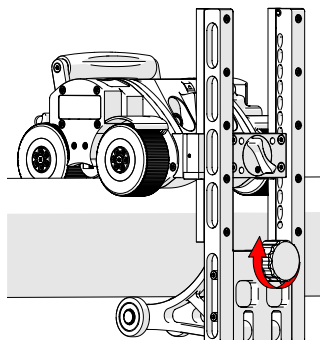

Fig. 7 - Twist to tighten on pipe
4. Tighten the fine adjustment knob to secure the crawler onto the pipe. Make sure to tighten the system sufficiently to ensure the necessary traction is achieved. (Fig. 7).